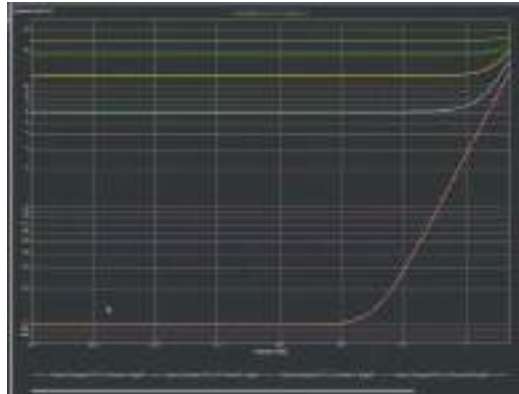

Figure 28: Results from target impedance simulation
**Step 2:** Once the IC model is defined, the target impedance needs to be generated. In the background various other Sigrity tools are being used to provide various target impedances that can be fed back to the board package designers. After the simulation is completed on the target impedance, Figure 28 shows the results. This reflects the multiple solutions that will meet the given power ripple spec, along with the PWL of the IC.